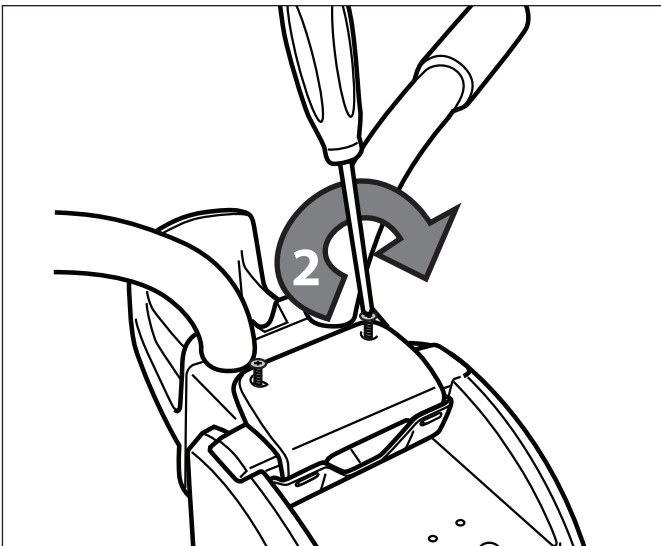

Figure 11. Secure the Locking Plate
3. Secure the locking plate using Phillips head screws. Do not overtighten. Refer to Figure 11.